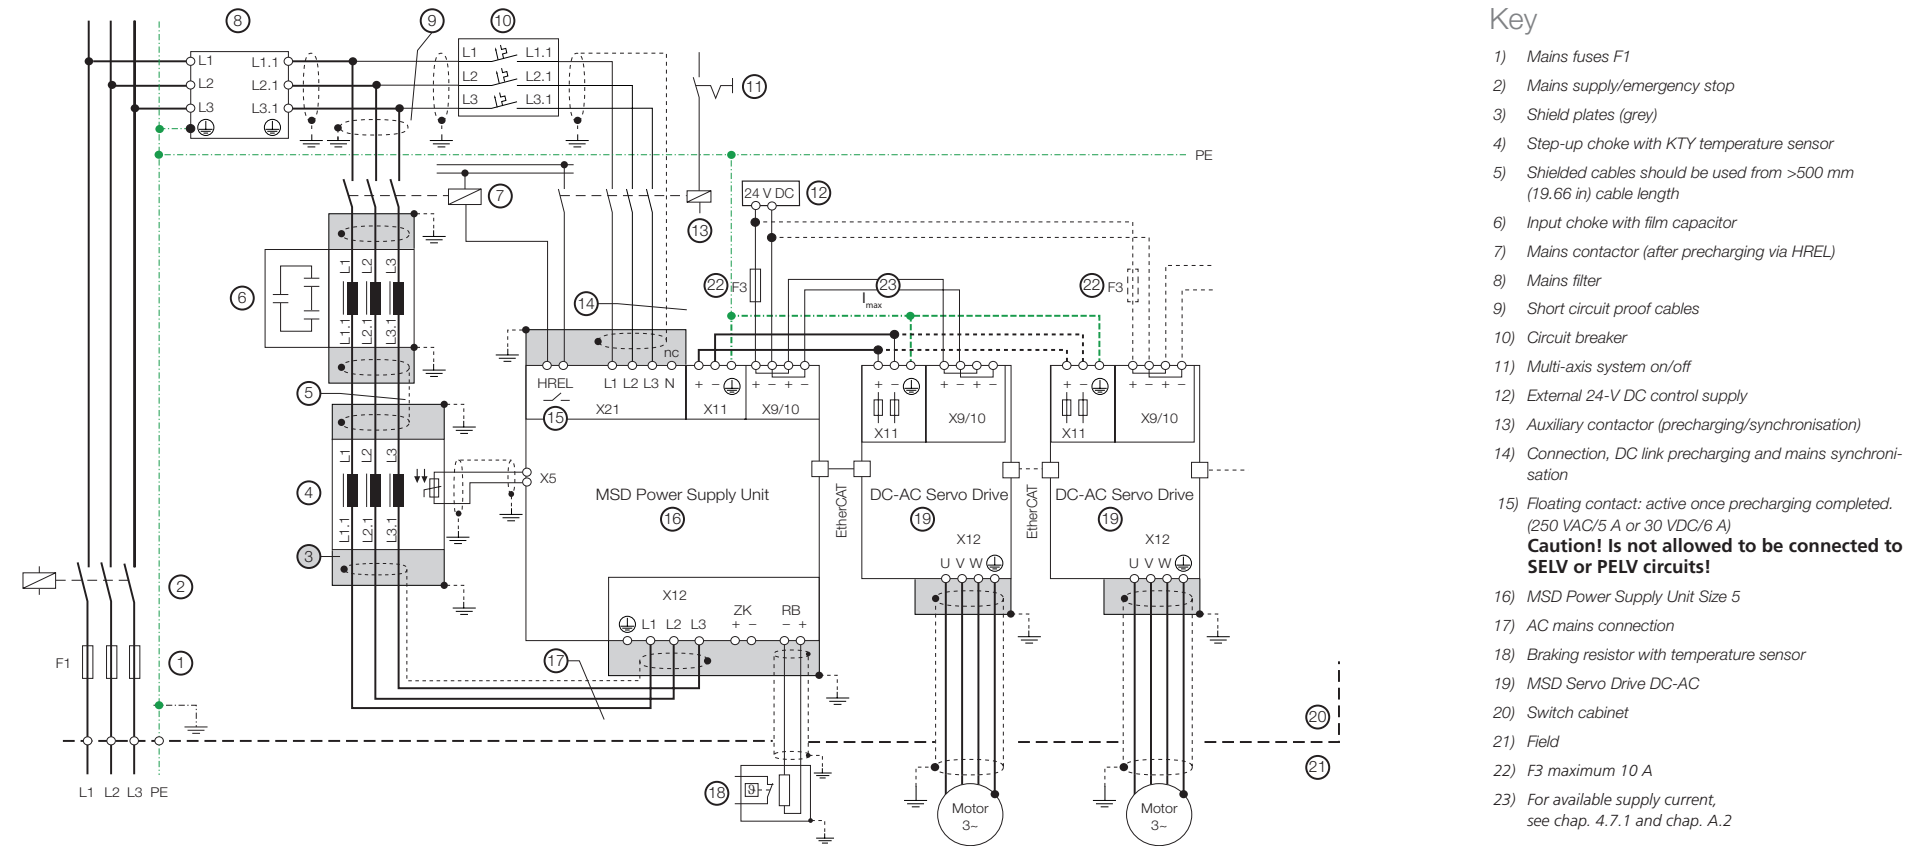

Figure 4.7 Overview connection diagram, supply unit (schematic depiction)
- Use only shielded mains, motor and signal cables as shown in Figure 4.7, p. 34. For all shielded connections, use cables with double copper braiding with 60 to 70 % coverage.
Figure 4.7 only shows a schematic depiction of the connection diagram. The position of the terminals may vary depending on the device. Incorrect wiring can cause irreparable damage to the supply unit.